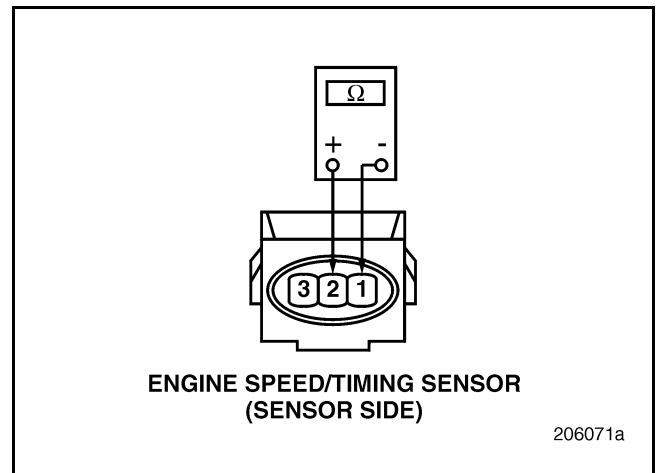

Figure 387
3. Measure the resistance between sensor terminals 1 and 2 (see Figure 387).